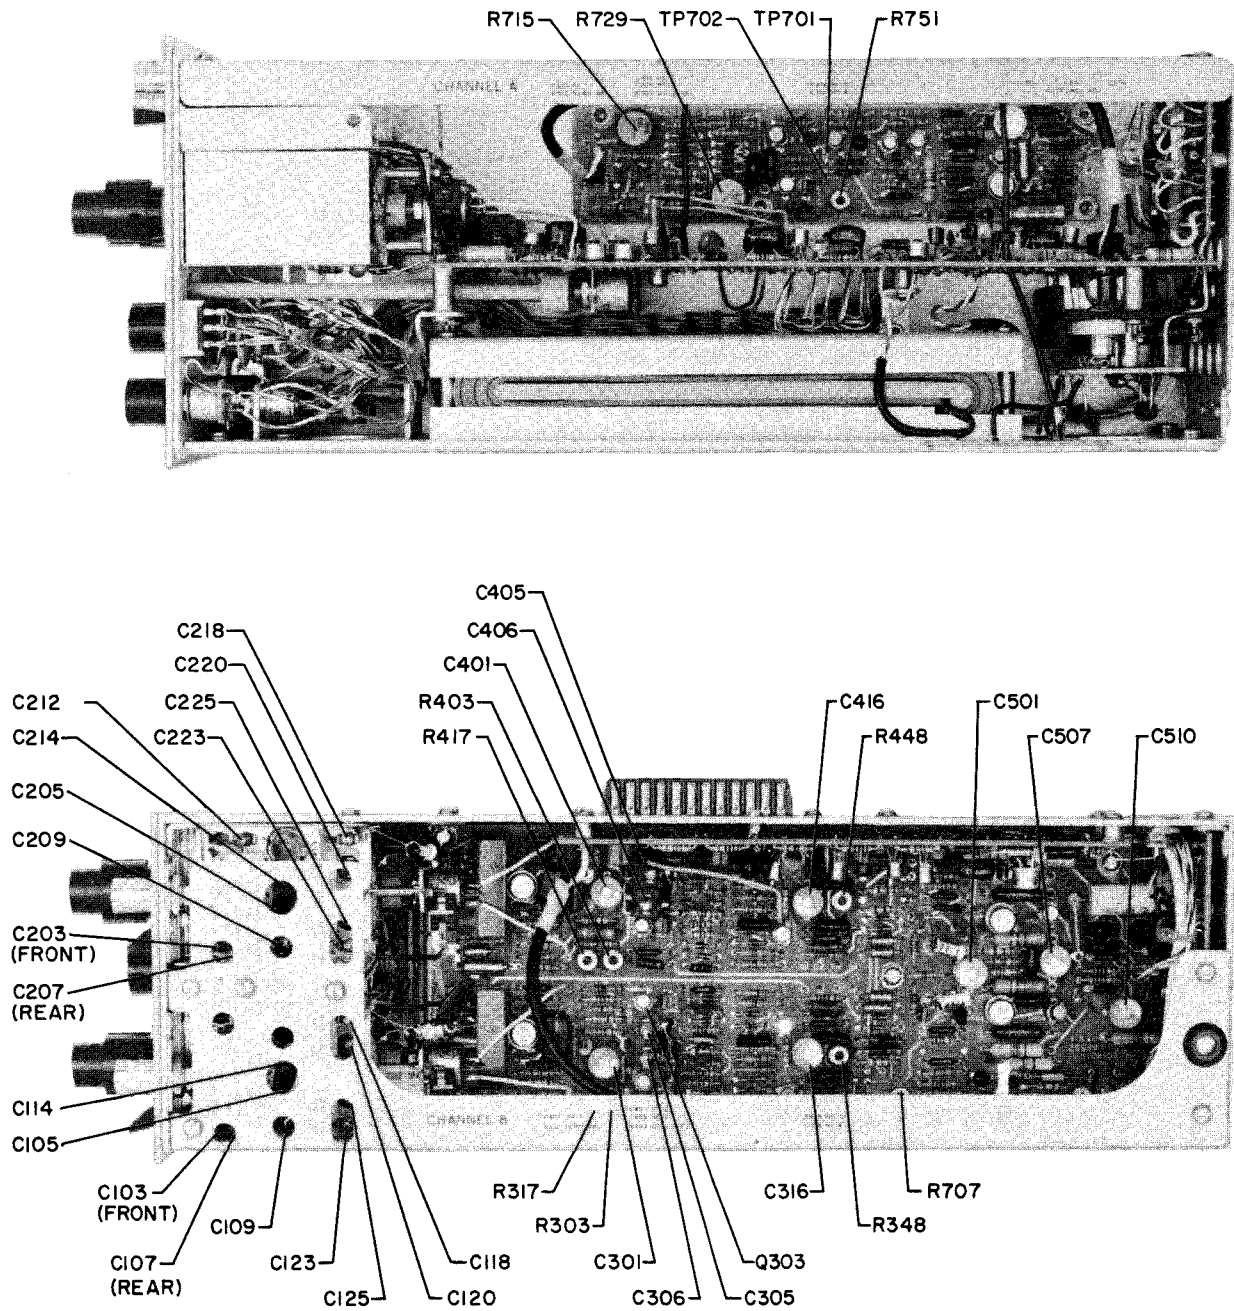

Figure 5-6. Dual Channel Vertical Amplifier Adjustments and Test Points
d. AMPLIFIER BALANCE AND DC LEVEL ADJUSTMENT. - The amplifier balance and dc level adjustment and test points are shown in figures 5-6, 5-22 and 5-31.
(1) TEST EQUIPMENT. - Multimeter, AN/USM-183.
(2) INSTRUCTIONS.
f. B TRIGGER BALANCE ADJUSTMENT. - The B trigger balance adjustment and test points are shown in figures 5-6, 5-25 and 5-31.
g. TRIGGER OUTPUT LEVEL ADJUSTMENT. - The trigger output level adjustment and test points are shown in figures 5-6, 5-25 and 5-31.
h. COMPOSITE TRIGGER BALANCE ADJUSTMENT. - The composite trigger balance adjustment and test points are shown in figures 5-6, 5-25 and 5-31.
i. COMPOSITE INVERTER CURRENT ADJUSTMENT. - The composite inverter current adjustment and test points are shown in figures 5-6, 5-22 and 5-31.
(1) TEST EQUIPMENT. Multimeter, AN/USM-183.
j. DELAY LINE TERMINATION ADJUSTMENT. - The delay line termination adjustment is shown in figures 5-6, 5-22 and 5-31.
(1) TEST EQUIPMENT. - Square Wave Generator, Model 211B.
(2) CONTROL SETTINGS. - Reset following controls:
k. ATTENUATOR COMPENSATION ADJUSTMENT. - The attenuator compensation adjustments are shown in figures 5-6, 5-20, 5-21 and 5-31.
(2) TEST SETUP.
The input capacitance adjustments are shown in figures 5-6, 5-20, 5-21 and 5-31.
m. PULSE RESPONSE ADJUSTMENT. - The pulse response adjustments are shown in figures 5-6, 5-22 and 5-31.
(1) TEST EQUIPMENT.